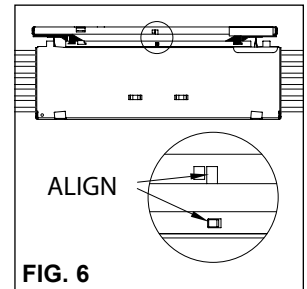

FIG. 6
5. Replace intumescent pad within lid and align slot in lid over channel lock (See Fig. 6).